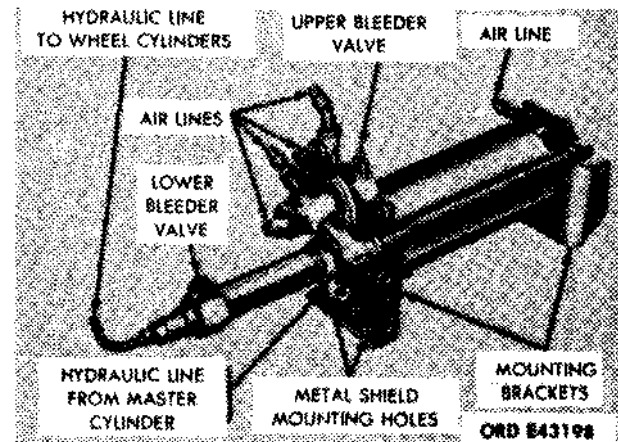

Figure 2-184. Air hydraulic cylinder.
(1) Remove the four nuts from bolts securing metal shield to underside of air hydraulic cylinder, and remove bolts and shield from cylinder (fig. 2-184).
(2) Unscrew the connector securing the hydraulic line (fig. 2-184) to the front of the air hydraulic cylinder, and remove the line from the cylinder.
(3) Unscrew the connectors securing the four air lines to the top of the air hydraulic cylinder (fig. 2-184), and unscrew the connector securing one air line to the rear of the cylinder, and remove the five lines from the cylinder.
(4) Unscrew the connector securing the hydraulic line from the master cylinder to the bottom center of the air hydraulic cylinder (fig. 2-184), and remove the line from cylinder.
(5) Support the air hydraulic cylinder, remove the two mounting bolts each from the front and rear mounting brackets (fig. 2-184) on the cylinder, and remove the cylinder from the vehicle.
(f) Position the air hydraulic cylinder under the frame left side rail, and install the two mounting bolts at the front and rear mounting brackets (fig. 2-184) on the cylinder.
(2) Position the hydraulic line from the master cylinder at the fitting at the bottom center of the hydraulic cylinder (fig. 2-184) and tighten the connector.
(3) Position the four air lines at the fittings and the top of the air hydraulic cylinder (fig. 2-184), and tighten the connectors. Position the air line at the fitting at the rear of the cylinder, and tighten the connector.
(4) Position the hydraulic line (fig. 2-184) at the outlet at the front end of the air hydraulic cylinder, and tighten the connector.
(5) Position the metal shield at the bottom of the air hydraulic cylinder mounting brackets (fig. 2-184), install four bolts and nuts, and tighten the nuts.
(6) Bleed the air hydraulic cylinder and wheel cylinders (para 2-190a).